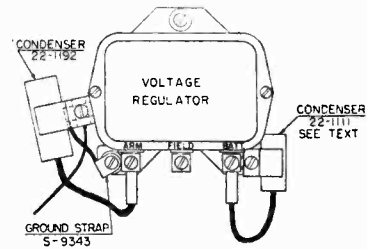

FIG. 4
1. Mount the voltage regulator condenser No. 22-1192 and the ground strap No. S-9343 on "ground" terminal of the voltage regulator. (Fig. 4) Connect the lead of the condenser to the ARM. terminal of the voltage regulator. Connect the end of the ground strap to the lower, left hand voltage regulator mounting screw. (Fig. 4.)
2. Mount condenser No. 22-1111 under the lower right hand voltage regulator mounting bolt, and connect the lead to the BATT. terminal of the voltage regulator. (Fig. 4.)